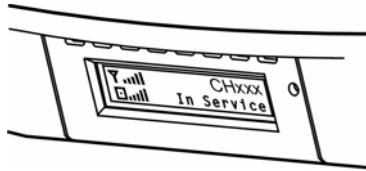

Figure 3.5: Displayed Signal Strength and Coverage Area
3. Hold the CU in the position it is to be mounted. In an ideal application, the display on the CU will show 5 bars of signal strength and coverage area. If the display is not showing 5 bars for coverage area and there are alternate possible mounting locations, move the CU to the alternate locations and check the display. Place the CU in the location showing maximum number of bars (see Figure 3.5: “Displayed Signal Strength and Coverage Area”). In the event the number of bars is not changing, which is very possible, choose a location that is most convenient.